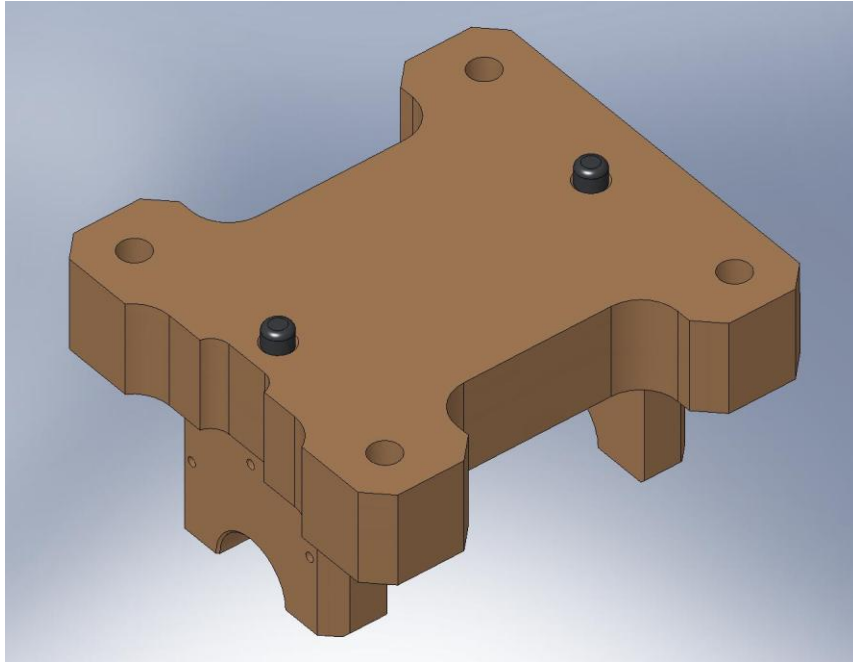

Figure 2.11. Dowel pins pressed into bottom of Kinematic Lock Base.
2.0.6 Prep Work – Build (4) Locker Assemblies (D071450)
- Press (2) 3/8"x1.0" dowel pins (McMaster-Carr #90145A624) into each of (4) **Stage 1-2 Kinematic Lock Bases** (20007936-1), as shown in Figure 2.11. Pins should stand .25" proud of the bottom surface.